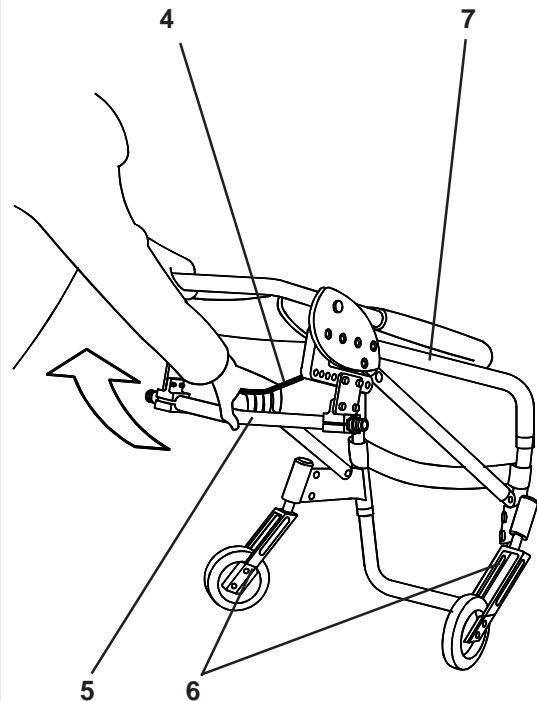
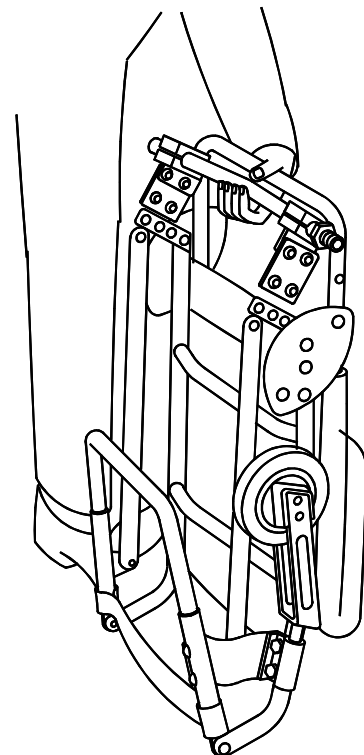

Fig. 3
Fig. 4
Standing at the rear of the chair (Fig. 2) firmly grasp the backrest support tube (1). Pull the backrest release cord (2) and push the backrest forwards and down until it reaches its semi-folded position (shown in the Fig. 3).
Release the backrest cord and holding the chair as shown in Fig. 3 (semi-folded position) pull the main frame lock release cord (4) and pull the camber bar (5) toward you until the front castors (6) are parallel with the seat frame (7). This is the fully folded position (Fig. 4).